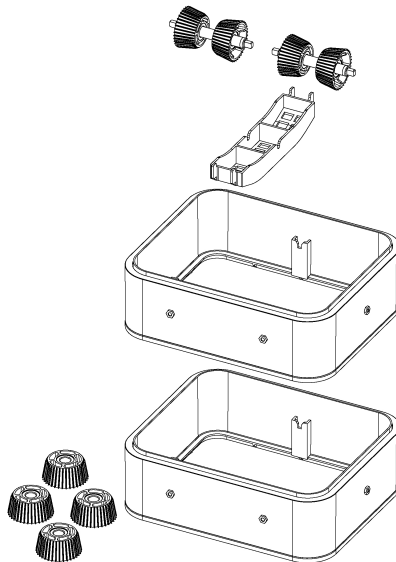
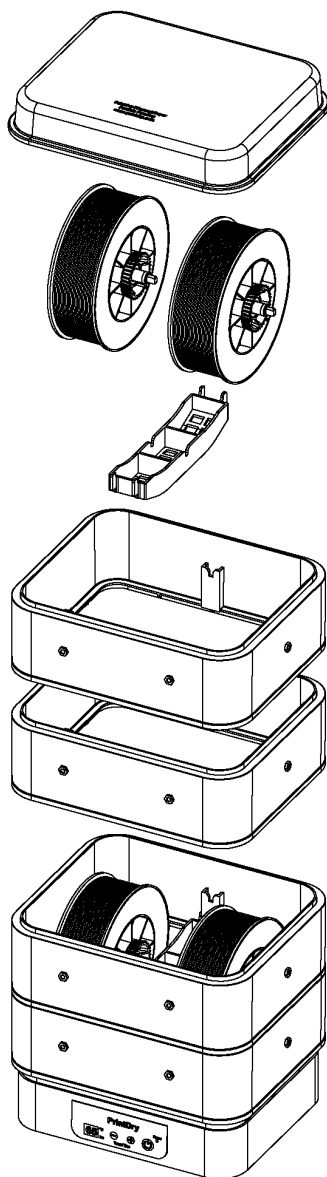

Fig.8 Additional Chamber Kit (Optional)
Fig.9 Use of Additional Chamber Kit (Optional)
- An additional chamber kit (Fig. 8) can be added on top to hold 2 additional filament spools, as shown in Fig. 9.